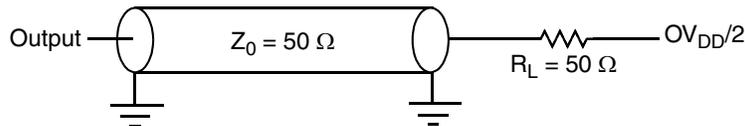

Figure 30. AC Test Load for the JTAG Interface
1. All outputs are measured from the midpoint voltage of the falling/rising edge of t_{TCLK} to the midpoint of the signal in question. The output timings are measured at the pins. All output timings assume a purely resistive 50-Ω load (see Figure 30). Time-of-flight delays must be added for trace lengths, vias, and connectors in the system.
2. The symbols used for timing specifications follow the pattern of $t_{(first\ two\ letters\ of\ functional\ block)(signal)(state)(reference)(state)}$ for inputs and $t_{(first\ two\ letters\ of\ functional\ block)(reference)(state)(signal)(state)}$ for outputs. For example, t_{JTDVXH} symbolizes JTAG device timing (JT) with respect to the time data input signals (D) reaching the valid state (V) relative to the t_{JTG} clock reference (K) going to the high (H) state or setup time. Also, t_{JTDVXH} symbolizes JTAG timing (JT) with respect to the time data input signals (D) went invalid (X) relative to the t_{JTG} clock reference (K) going to the high (H) state. Note that, in general, the clock reference symbol representation is based on three letters representing the clock of a particular functional. For rise and fall times, the latter convention is used with the appropriate letter: R (rise) or F (fall).
Figure 30 provides the AC test load for TDO and the boundary-scan outputs.